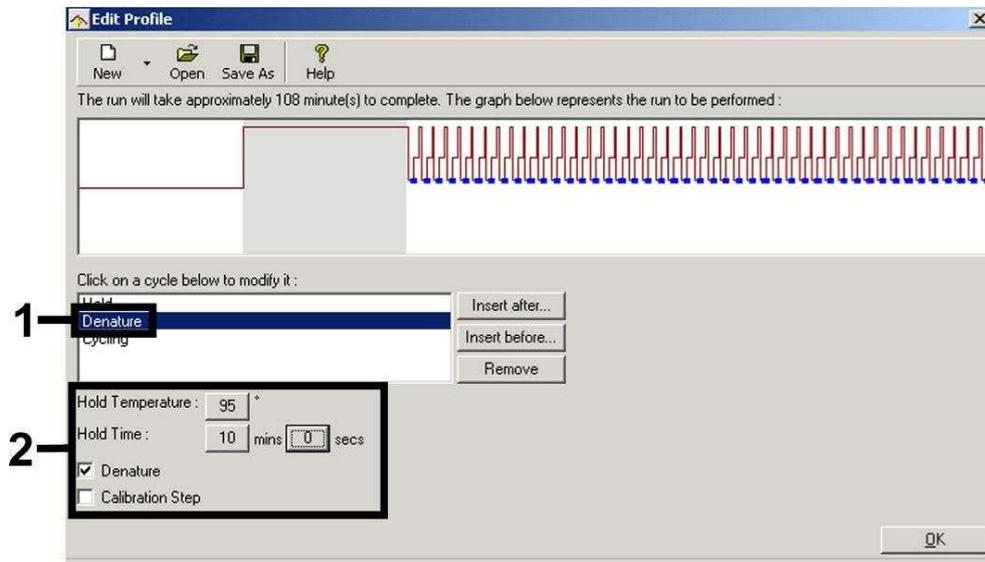

Fig. 5: Initial Activation of the Hot Start Enzyme.
- C. Initial Activation of the Hot Start Enzyme Fig. 5